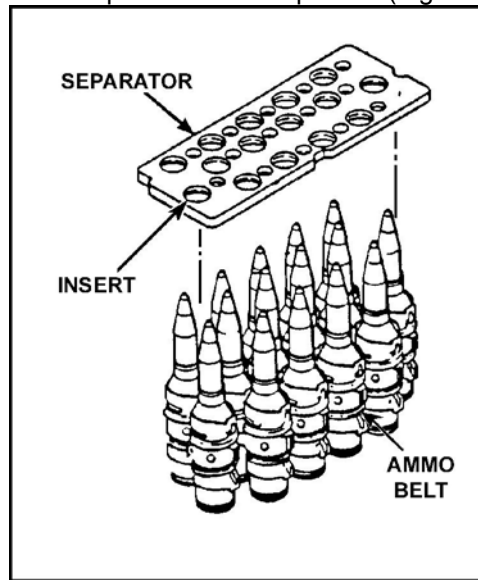

Figure 2. Separator.
- a. Form each belt into an "S" shape and use a separator (Figure 2).